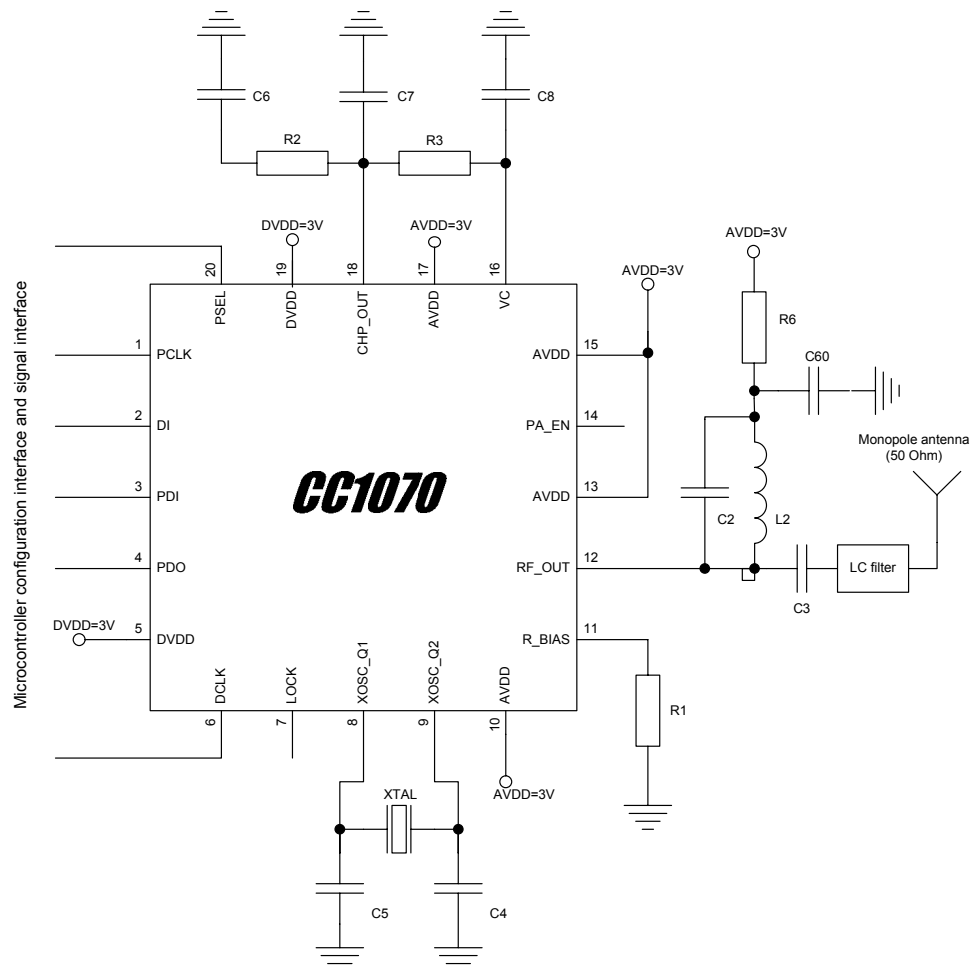

Figure 3. Typical application and test circuit (power supply decoupling not shown)
Very few external components are required for the operation of *CC1070*. A typical application circuit is shown in Figure 3. The external components are described in Table 9 and values are given in Table 10.
**Table 10. Bill of materials for the application circuit in Figure 3**